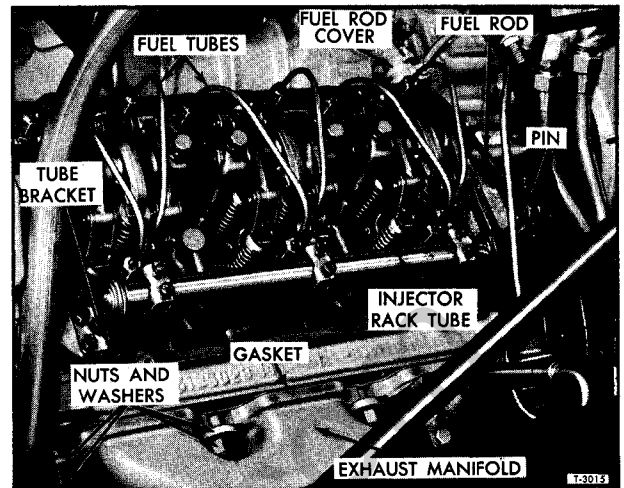

Figure 14—6V-53 Engine with Left Hand Rocker Arm Cover Removed
9. Swing rocker arms and brackets into place and install rocker bolts (fig. 14). Torque to "Specifications" at end of this section.
7. Remove rocker arm cover from head (fig. 14).